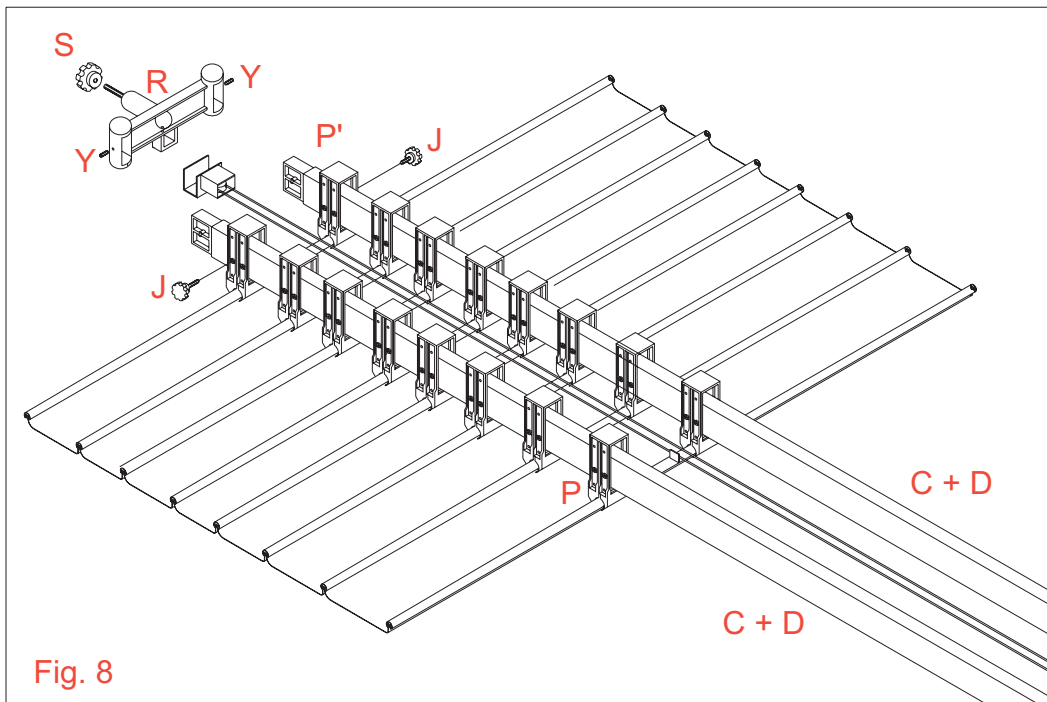

Fig. 8
3. (Fig. 8) Insert the crossbars into the sliders P e P'